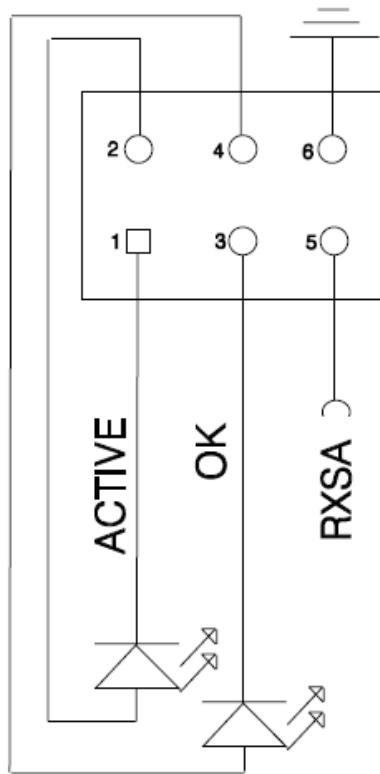

Figure 7.5 Connecting the LED Outputs
The signals used for the indicator LEDs (Read O.K. and Transmitting) are available at Indicator Outputs connector (H), they can be used to drive external LEDs or buzzers, they must be connected as shown in Figure 7.5. Ensure that the values given Table 5.18 are not exceeded.